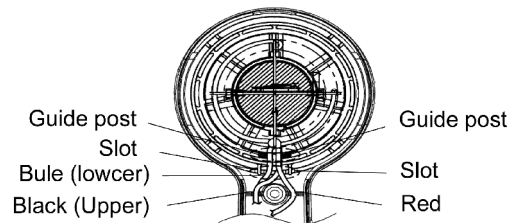

Figure 4
(3) Insert the red, black and blue lead wires between the guide post of the air flow assembly as shown in Figure 4.
(4) Insert the motor block into slot of back housing as shown in Figure 4.